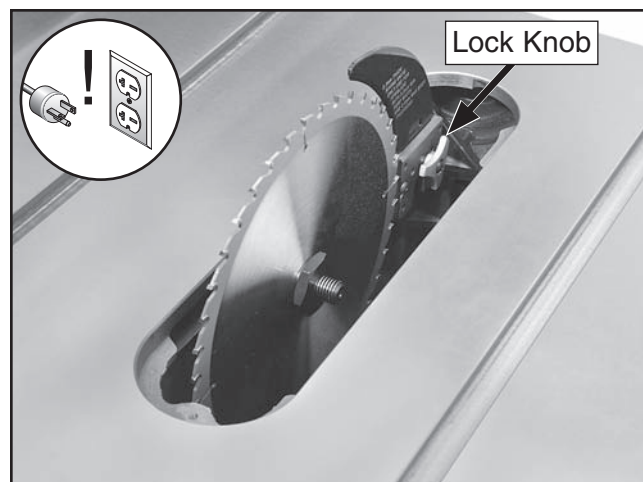

Figure 16. Lock knob location.
4. Tighten the lock knob (see **Figure 16**), then re-install the table insert.